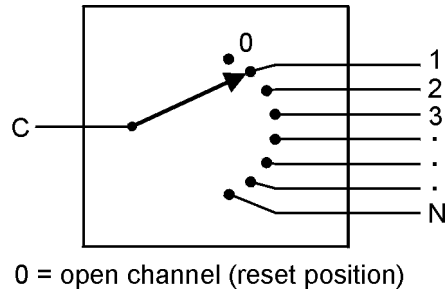

Figure 2: Single-Common Configuration
The common input channel (C) is connected to the output channel (1). The reset position (0) of the switch is an open circuit. This configuration is shown in Figure 2.